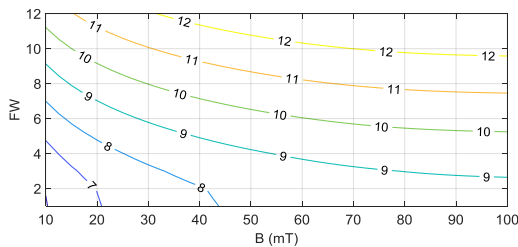

Figure 29: MA782 Resolution
The filter window (FW) determines the effective resolution (defined as the $\pm 3\sigma$ noise interval). Figure 29 shows the effective resolution for different FWs and the magnetic field (B).